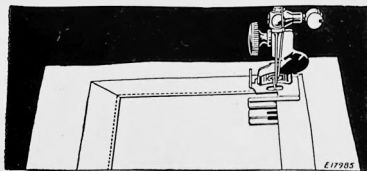

FIG. 55. APPLYING BIAS FOLDED TAPE
- (2) To make square corners, sew to the turning point, remove the tape from the attachment, form the corner by hand, replace the tape and continue stitching. See **Fig. 55.**
- (3) To space two or more parallel rows, mark the material with a guide line, using a crease, chalk or basting thread.